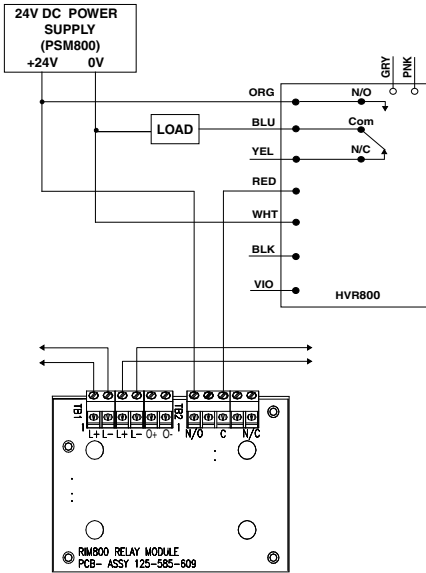

Fig. 2: HVR800 in 24 Vdc Application
- For typical wiring configuration, see Figures 2 to 6.